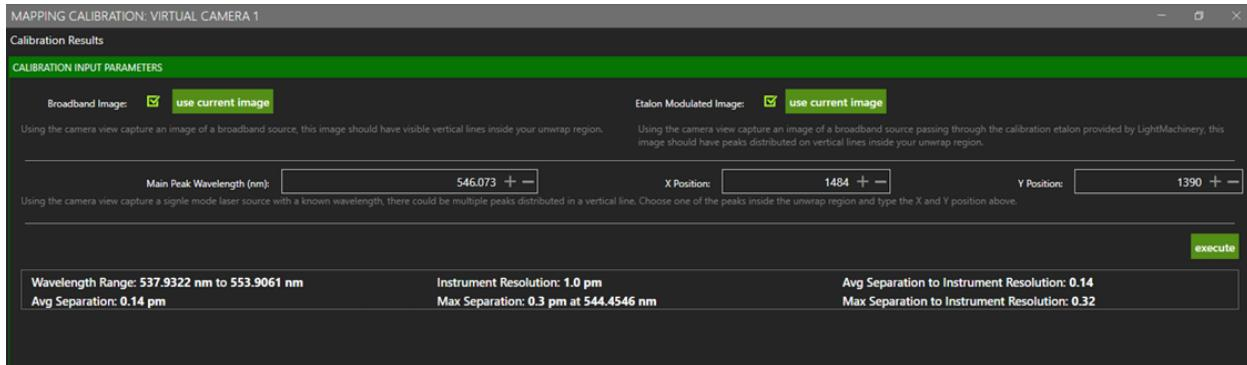

Figure 6-7 Screenshot of the Mapping Calibration Window after a successful calibration.
1. Once the calibration is complete, the software returns six different numbers, as shown at the bottom of Figure 6-7, and described below.